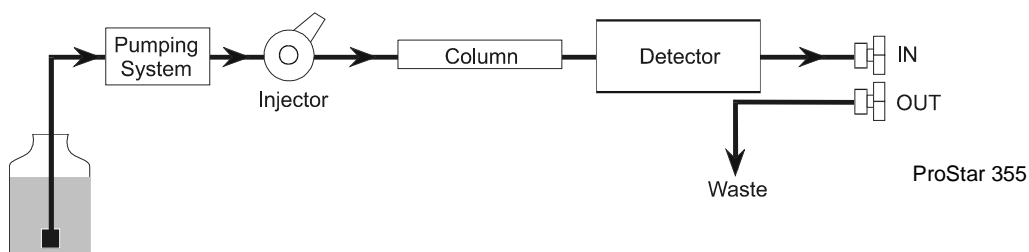

Figure 4 ProStar 355 connected to the HPLC System
**NOTE:** The ProStar 355 must be the last component in any LC system. No detector or backpressure regulator can follow it. Do not use narrow-bore tubing after the ProStar 355. Refer to Figure 4.
2. Connect the opposite end of the tubing in the same manner to the column exit end. See Figure 4.